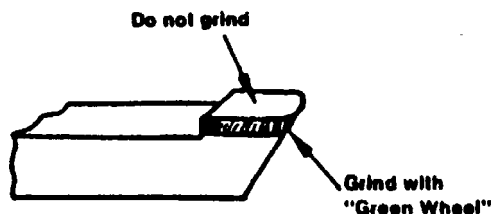

fig. 14
7. Using the "Green Wheel", grind the end of the carbide until the edge is sharp. Avoid grinding on the face of the carbide, which would reduce its thickness and weaken it, making it more susceptible to cracking and chipping. (Figure 14)